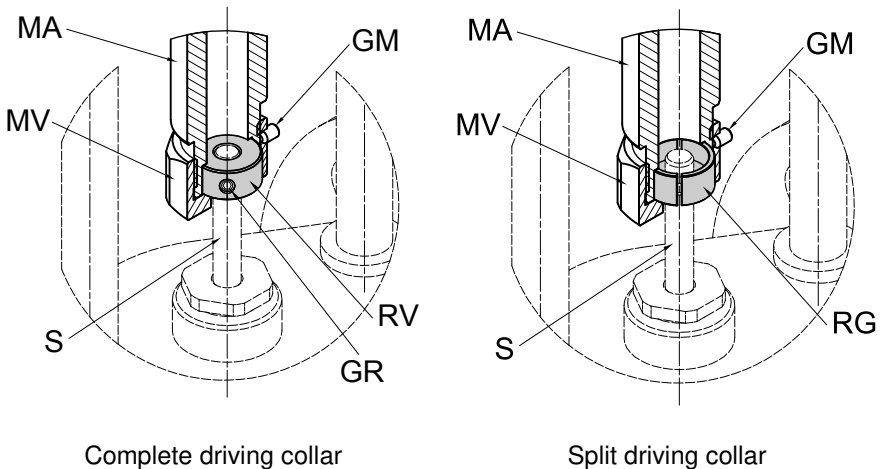

Fig. 5.10: Series NEx-V – assembly of the driving collar
1. Using mounting flange F, place the actuator onto the valve neck H (see Fig. 5.10 “Series NEx-V – assembly of the driving collar”)